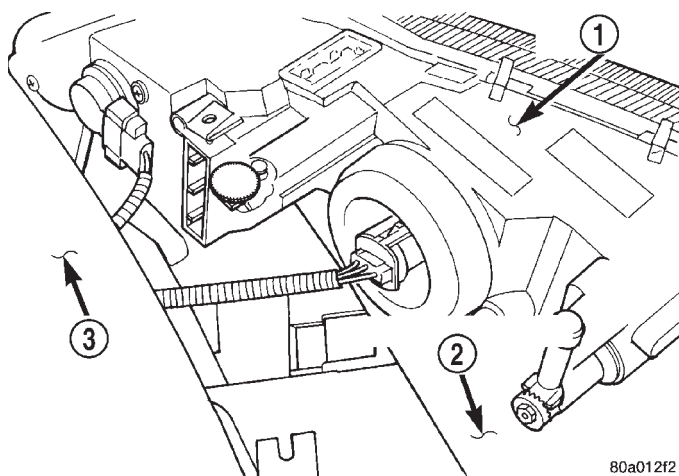

Fig. 2 Headlamp Module
- (3) Remove headlamp module from radiator closure panel (Fig. 2).
- (4) Disconnect wire connector from headlamp bulb socket.
- (5) Rotate park/turn signal lamp socket one quarter turn counterclockwise.
- (6) Pull park/turn signal socket from headlamp module.
- (7) Remove headlamp module from vehicle.